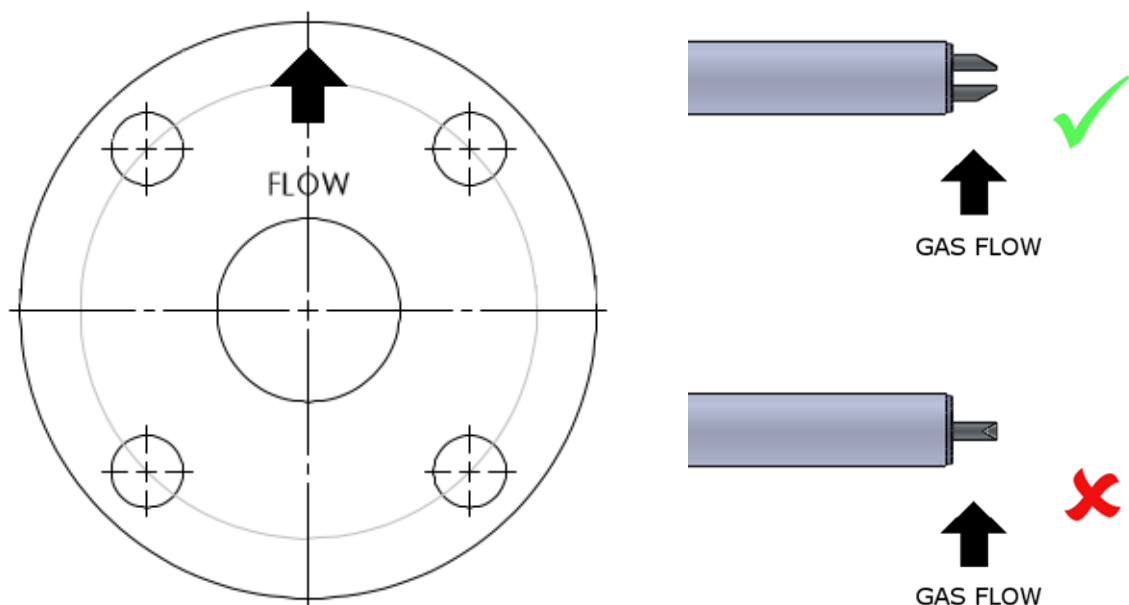

Figure 5-1 – Gas Flow Alignment
- The device should be mounted such that the alignment arrow on the flange is in the same direction as the sample gas flow. Refer to Figure 5-1 showing alignment arrow.